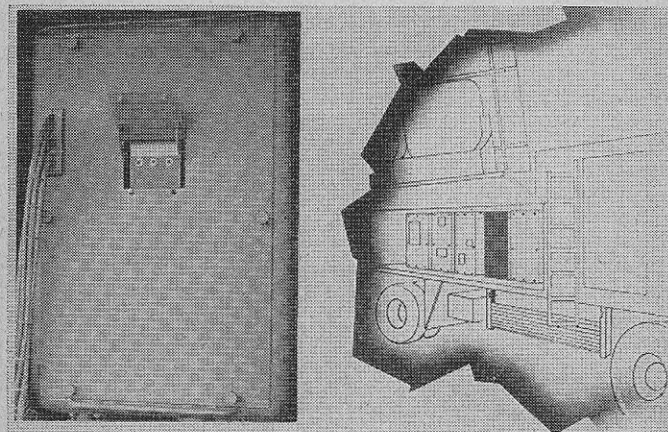

FIGURE 23.—Output servo amplifier.
■ 21. **OUTPUT SERVO AMPLIFIER.**—This unit (fig. 23) contains two amplifiers, one for azimuth control and one for elevation (angular height) control. These units take their input from the **AZIMUTH** and **ELEVATION** (angular height) **CONTROL UNITS** in the trailer cab through input amplifiers discussed in paragraph 20, or from the **AUTOMATIC CONTROLLER** depending on whether the system is operating by manual control or by automatic control. The output of the two amplifiers actuates the azimuth and elevation (angular height) drive motors on the antenna pedestal.